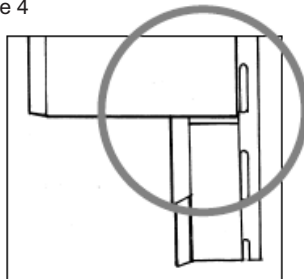

Figure 6
- 3) Cut and remove this area. Continue the crosscut to the edge of the lineal. widen this cut to make a slit about 1/16" wide.(Figure 6)